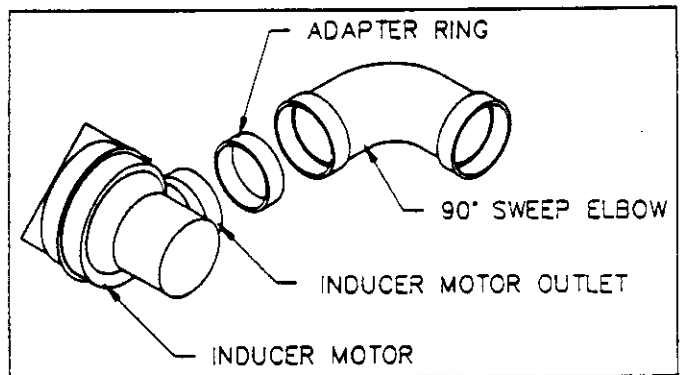

Figure 2
- Cut an inducer adapter ring out of 3" vent pipe 1 1/8" long. Join to inducer motor outlet with approved sealant. See Figure 2.
- With approved sealant, join a 3" 90-degree sweep elbow to inducer adapter ring installed in previous step. See Figure 2.